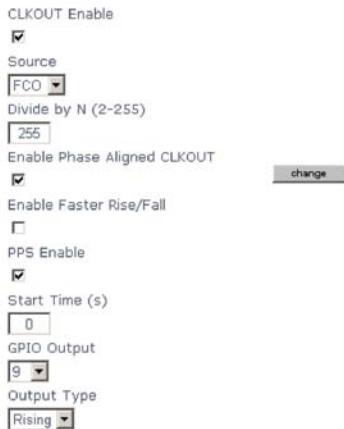

Figure 7—Clock Output and PPS panel
c) Clock output and PPS—No NSC PHYTER GPIO pins are routed to any M5234BCC board header. If the user wishes to observe the PPS signal and the PHYTER clock output signals, they must do so directly on the PHYTER pins. These signals can however be enabled from the Clock\_Output&PPS panel shown in Figure 7.